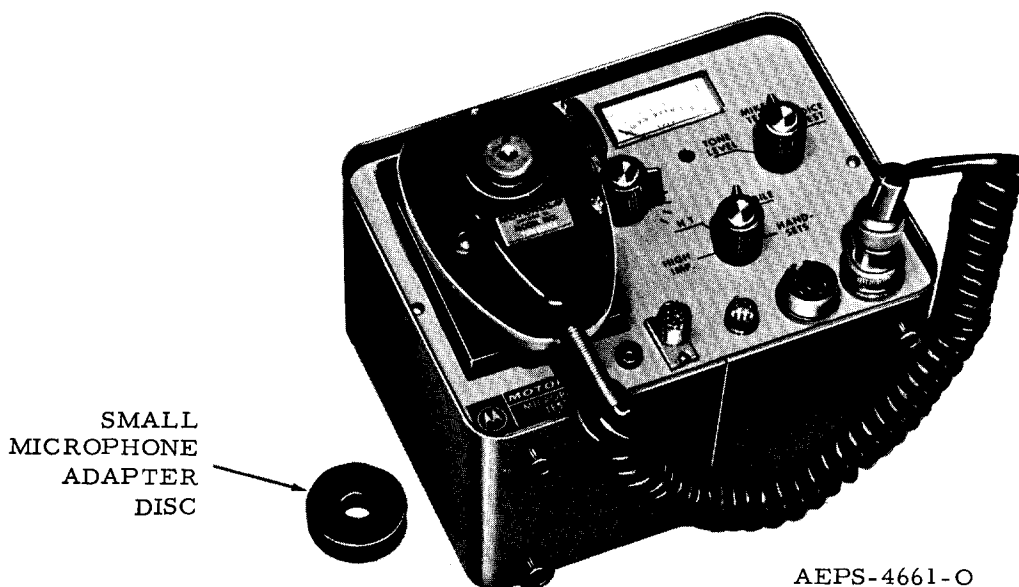

Figure 1.
- f. Place the microphone over the padded speaker opening (voice box) (refer to Figure 1) on the tester
When testing microphones (miniature type) with small acoustical openings, it will be necessary to use the voice box adapter disc shown in Figure 1. The adapter disc is placed inside the "voice box" pad flush against the speaker grill. The smaller microphone is then acoustically coupled to the voice box by being placed firmly against the reduced sized opening.